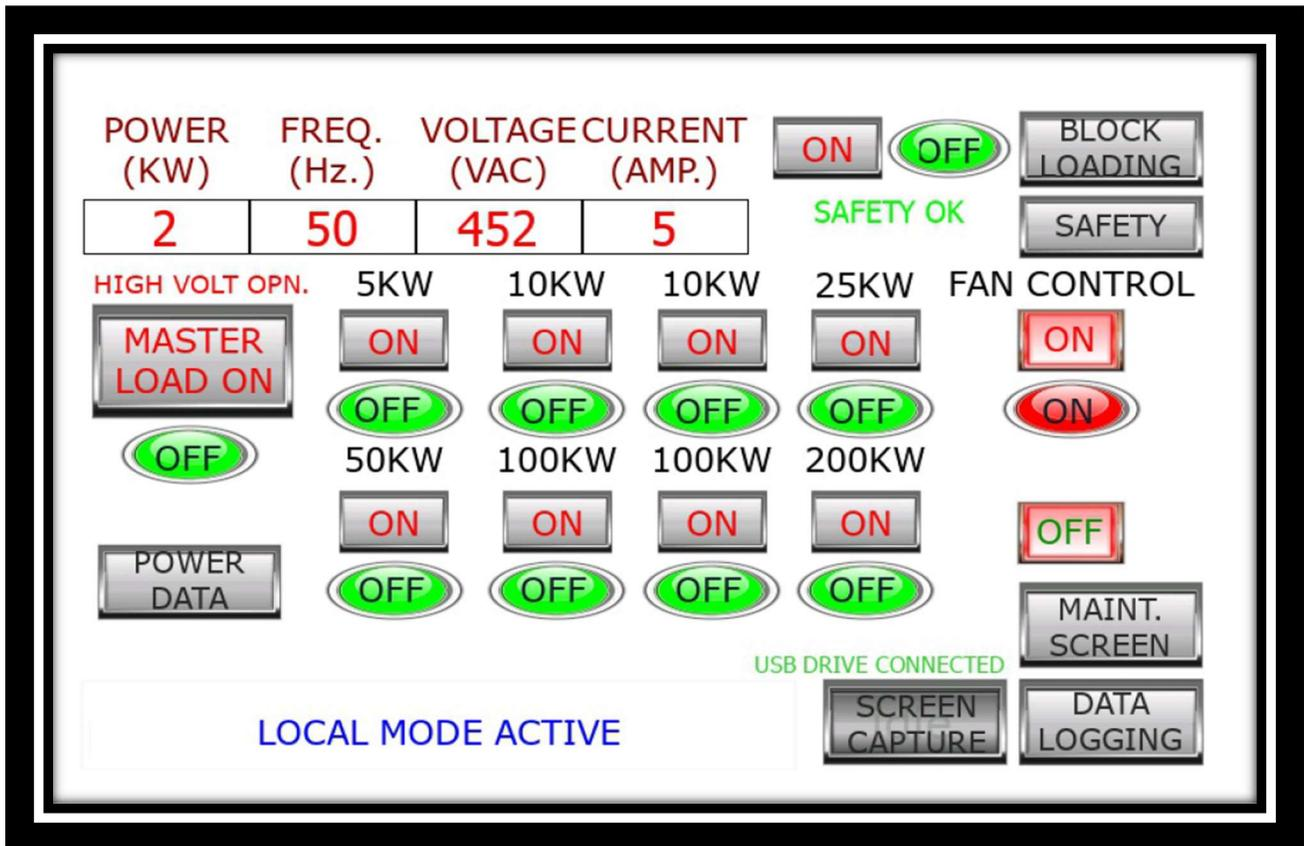

Figure 1 Main Screen.
- Use main screen on HMI display (See Figure.1 as below) to apply require kW.
Use HMI display touch screen to apply require kW. Minimum kW resolution that can be applied is 5 kW (See figure 1),
Click on <ON> button will start block loading option (See figure 1) as indicated by blinking 'Block loading' text and 'ON' indicator.